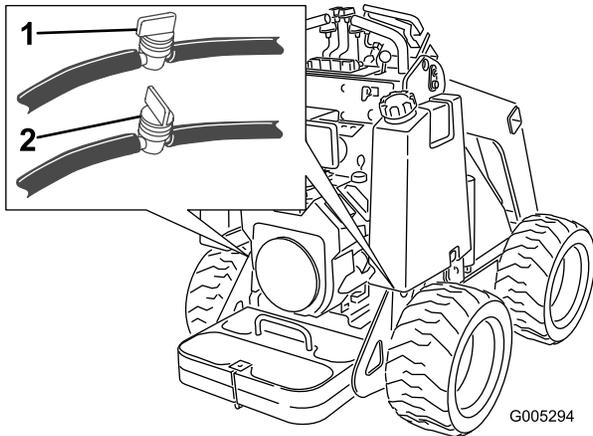

Figure 28
2. Shut off the fuel valve on the bottom of each fuel tank (Figure 28).
- Shut off the fuel valve in the hose near the bottom of the fuel tanks (Figure 28).
- Open the fuel valves in the hoses near the bottom of the fuel tanks as illustrated in Figure 28.